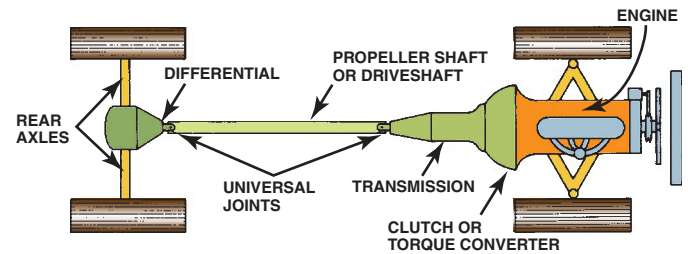

FIGURE 3-9 A longitudinally mounted engine drives the rear wheels through a transmission, driveshaft, and differential assembly.
- **Longitudinal and transverse mounting.** Engines may be mounted either parallel with the length of the vehicle (longitudinally) or crosswise (transversely). ● **SEE FIGURES 3-9 AND 3-10.** The same engine may be mounted in various vehicles in either direction.